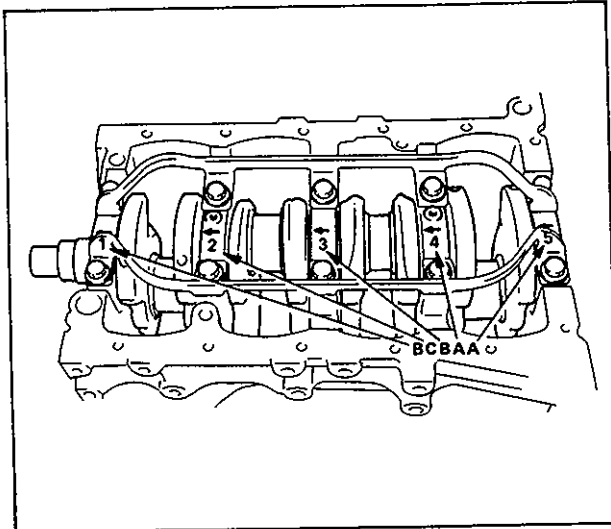

Fig. 6A-150 Stamped Alphabets on Cylinder Block
For example, in Fig. 6A-150, the first (left-most) alphabet "B" indicates that cap bore dia. of bearing cap "1" is within 56.006 – 56.012 mm, and the fifth (rightmost) alphabet "A" indicates that cap bore dia. of cap "5" is within 56.000 – 56.006 mm.
3. There are five kinds of standard bearings differing in thickness. To distinguish them, they are painted in following colors at the position as indicated in Fig. 6A-151.